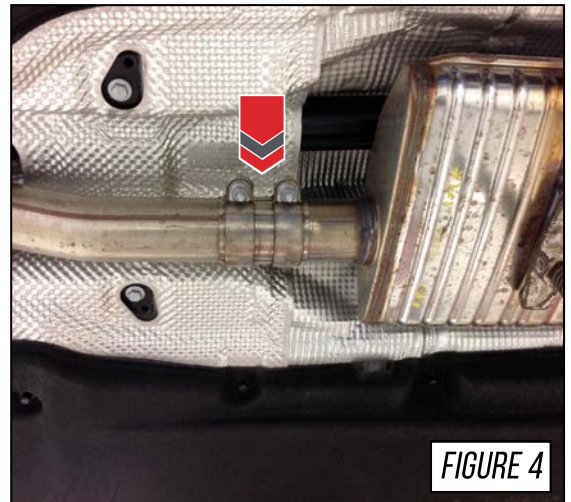

FIGURE 4
Starting from the rear of the car, support the OEM rear mufflers and loosen the two (2) 13mm bolts that secure the sleeve clamps, as shown by the arrow in **Figure 4**.